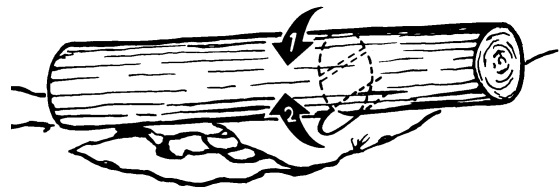

Fig. 19
3. Log supported on both ends: First, overbuck 1/3 diameter of log to avoid splintering. Second, underbuck to meet first cut and avoid pinching (Fig. 19).